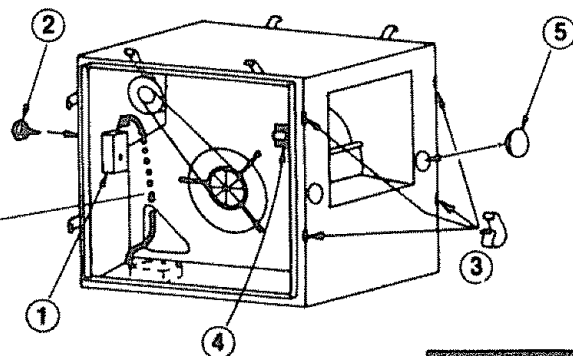

FIGURE 5
- 9 Turn cooler to side outlet position. (Figure 5)
REASSEMBLY AS SIDE OUTLET COOLER (Fig 5)